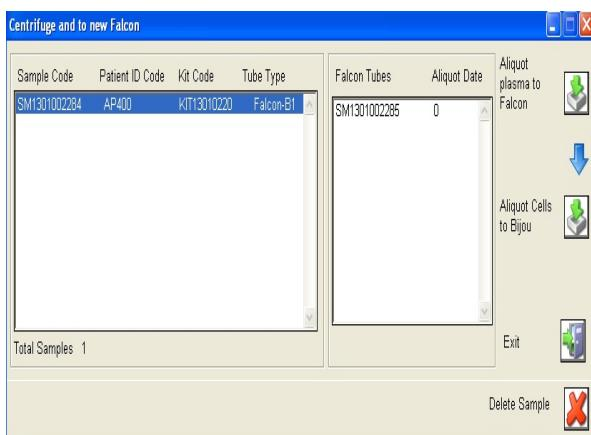

Figure 15: Centrifuge and to new falcon
The 'Centrifuge and to New Falcon' screen (Figure 15) will appear.
3. Highlight the falcon tube used and follow the aliquoting sequencing as described previously for the '**Combine Blood Tube**' icon. Select '**Exit**' to leave the screen and return to '**Centrifuge and to New Falcon**' screen (Figure 15).